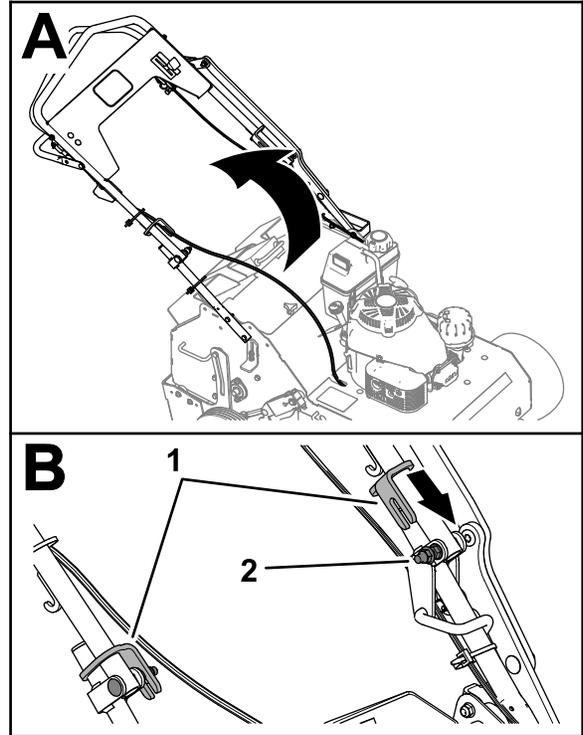

Figure 22
1. Extend the handlebar (Figure 22).